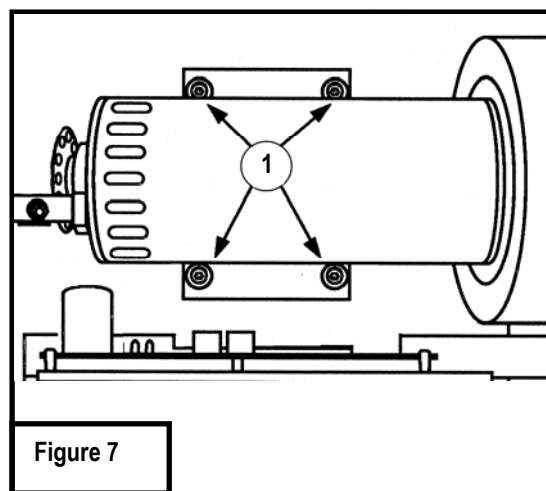

Figure 7
Step Two: (figure 7)
Locate the four motor mount screws (item 1 in fig 7) as shown in the diagram and loosen them each two turns each using the 3/16" allen wrench.
Step Four: (figure 7)
Complete the adjustment by tightening the four motor mount screws (item 1 in fig 7).